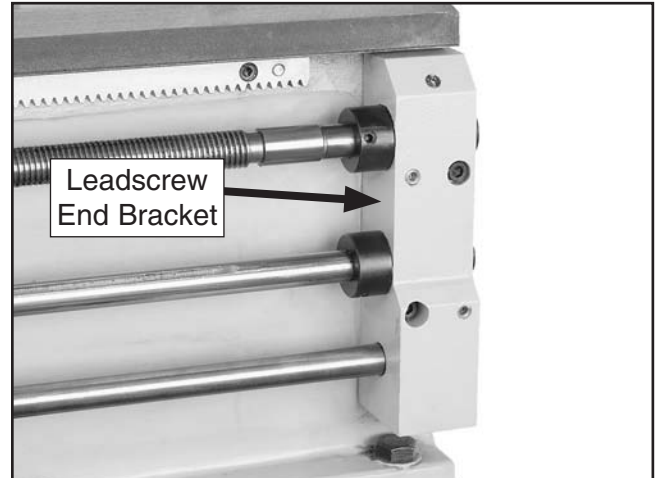

Figure 91. Leadscrew end bracket.
3. Remove the leadscrew end bracket shown in **Figure 91**.